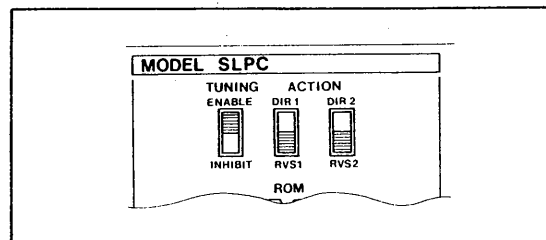

Figure 5-2-5. Setting Selector Switches.
- (2) Setting of tuning panel (Figure 5-2-5).